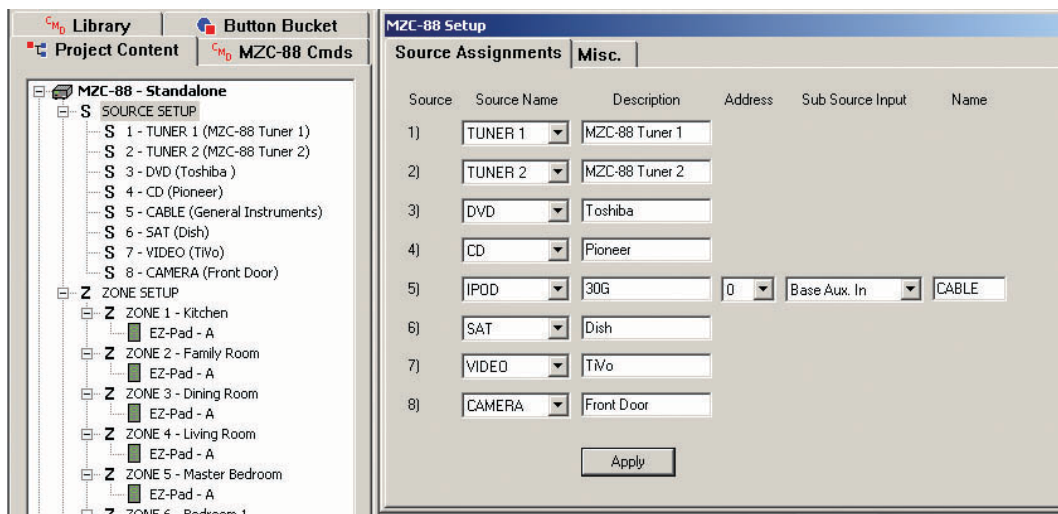
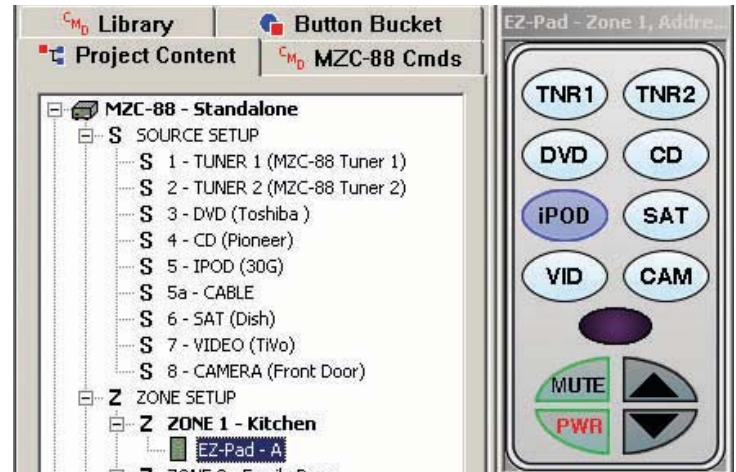

Figure 24
Figure 25
5. Left click the **pull-down arrow** for the **source** that is to change to iPod. (For the example Source 5 will be used.) The **MZC Source List** will open. Highlight and left click iPod. **Source 5** will change to iPod. The **Source Assignments Tab** will also change, now featuring additional options for Source 5. (Refer to **Figure 24**)
IMPORTANT NOTE: The sources connected to the Base and Adapter Aux Inputs are only selectable via **MODE 3.1 Keypads**. They are not available to EZ-Pads and cannot be selected by IR remote commands. For the purpose of the example, the **cable box** that was connected to **Source 5** on the MZC has now been **replaced** by an **iPod**, making the iPod available to **all zones**. The **cable box** is actually **dedicated** to the **Family Room**, where coincidentally, the **MODE 3.1** is being installed. The **cable box** will be **configured** as the **Source 5 Sub Source Input** in **EZ-Tools (Figure 24)** and **connected** to the **Base Aux In** in the **Family Room**. **All zones** will have **access and control** of the iPod (**Source 5**). **Only zones with MODE 3.1 Keypads** will have **access and control** of the **cable box (Source 5a)** which will appear in the **MODE 3.1 Main Menu** as a regular **Source**. Further, as an **option**, the cable box can be **unchecked** in **Zone Setup**, for any **zones other than the Family Room** that get **MODE 3.1 Keypads**, to keep the cable box **dedicated** to the **Family Room**. In addition to dedicated control, this will allow the cable box audio to feed through the MZC amp and zone speakers for the Family Room. See section: **Connections** for additional information.
12. After the Warning(s) have been cleared, the **Source Setup** under the **Project Content Tab** will update to show the new source configuration. (Refer to **Figure 25**) Source 5 will have changed to iPod and a new source, **5a** will show **Cable**. Source 5a is the **Sub Source Input** (Base or Adapter Aux In) configured in the previous steps. (Refer to **Figure 24**)
- At this point the EZ-Pad Source Buttons will have also changed to indicate the new source configuration. In the example, the Cable Button has now changed to iPod as shown in **Figure 25**. All programming associated with Source 5 will need to be changed from Cable commands to iPod commands for all keypads in all zones. Left click the **CMD Library Tab** to open the IR Command Library. Left click the pull-down arrow next to the **Brands** block and scroll the list until **SpeakerCraft** appears. Highlight and left click **SpeakerCraft**. Expand the **MODE Folder** by left clicking the '+' sign or double left clicking the folder icon. Next, expand the **MODE Base Folder** by left clicking the '+' sign or double left clicking the folder icon.